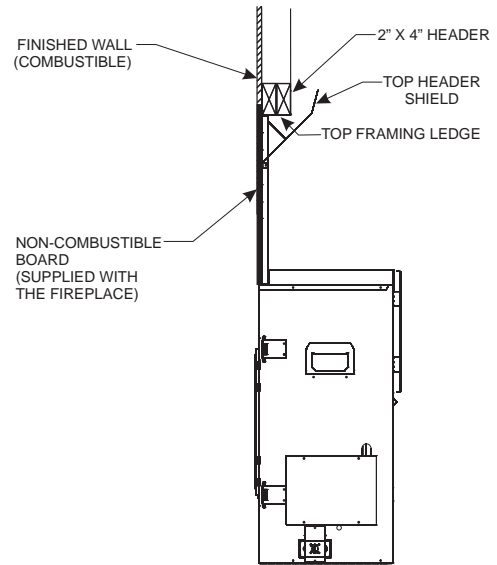

Figure 33
- Non-Combustible board installed over the fireplace face (framing bracket flush). **See Figure 33.**